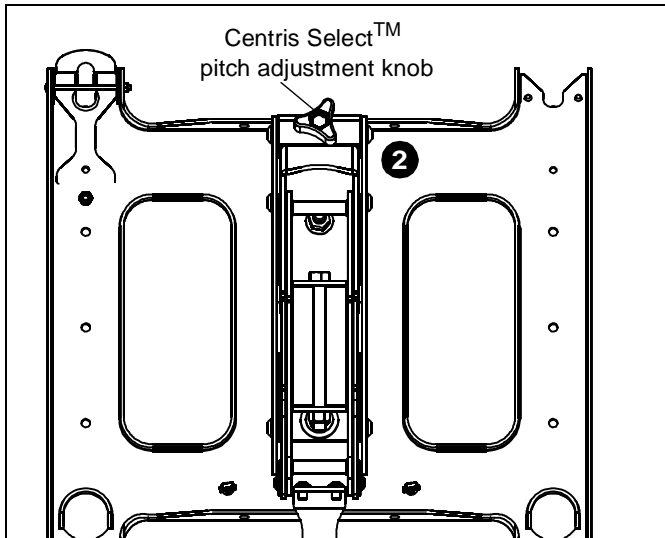

Figure 8
2. If required, adjust the Centris Select™ knob right or left until desired pitch tension is obtained. (See Figure 8)